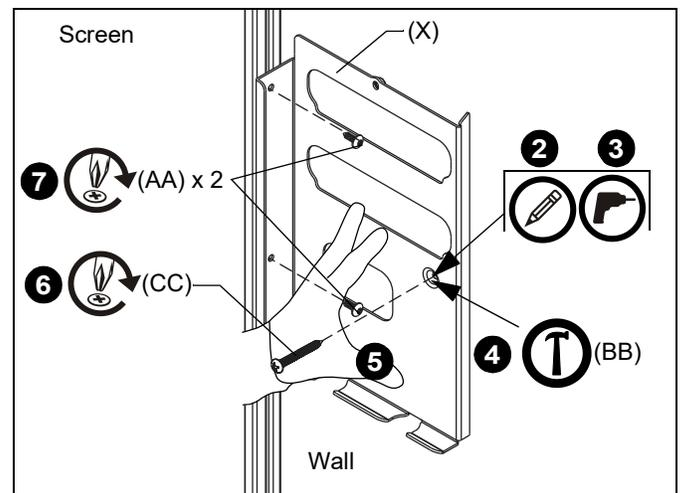

Figure 50
- Place control pad bracket (X) against wall and screen and mark location of wall fastener. (See Figure 50)
- Remove control pad bracket (X) from wall and drill pilot hole at marked location.
- Insert anchor (BB) into pilot hole using a hammer. (See Figure 50)
- Place control pad bracket (X) against wall, matching up pilot hole and anchor with mounting hole in bracket.
- Fasten bracket to wall using on #8 x 1-1/2" Phillips head screw (CC). (See Figure 50)
- Fasten side of control pad bracket (X) against screen using two #8 x 1/2" Phillips head screws (AA). (See Figure 50)